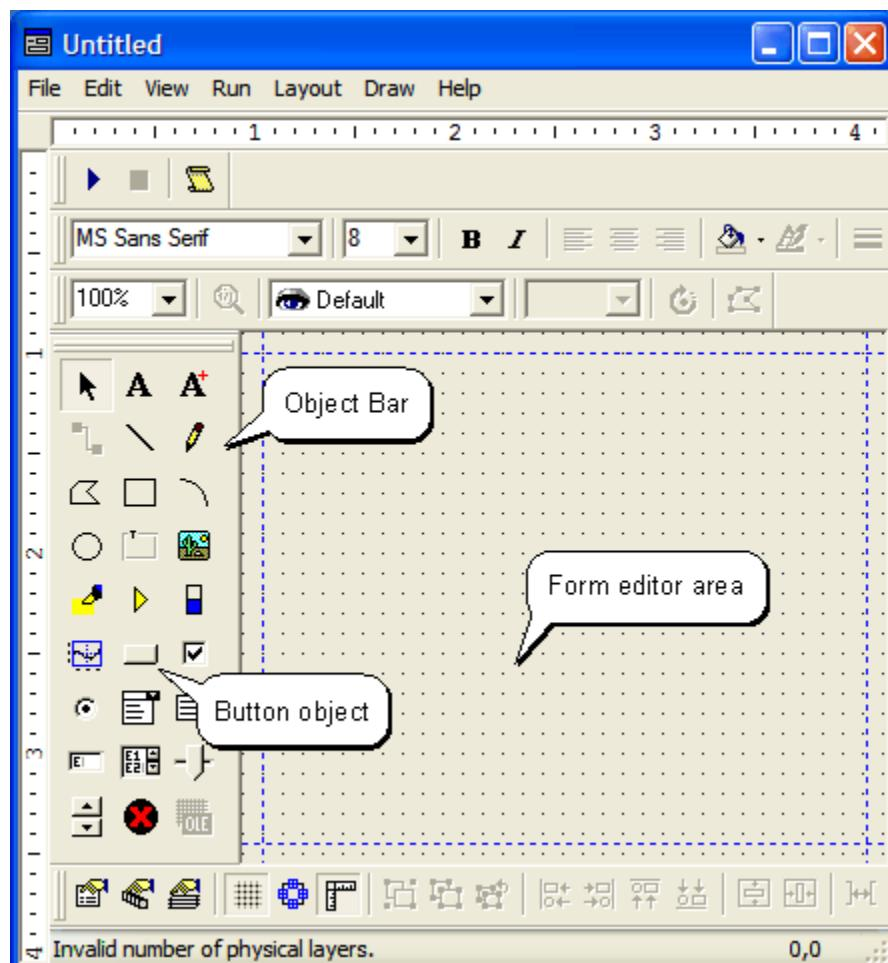

Figure 4-9. The IDE in its form editor mode.
- 3) Click the **OK** button to accept these settings and launch the IDE in its *form editor mode* (Figure 4-9).